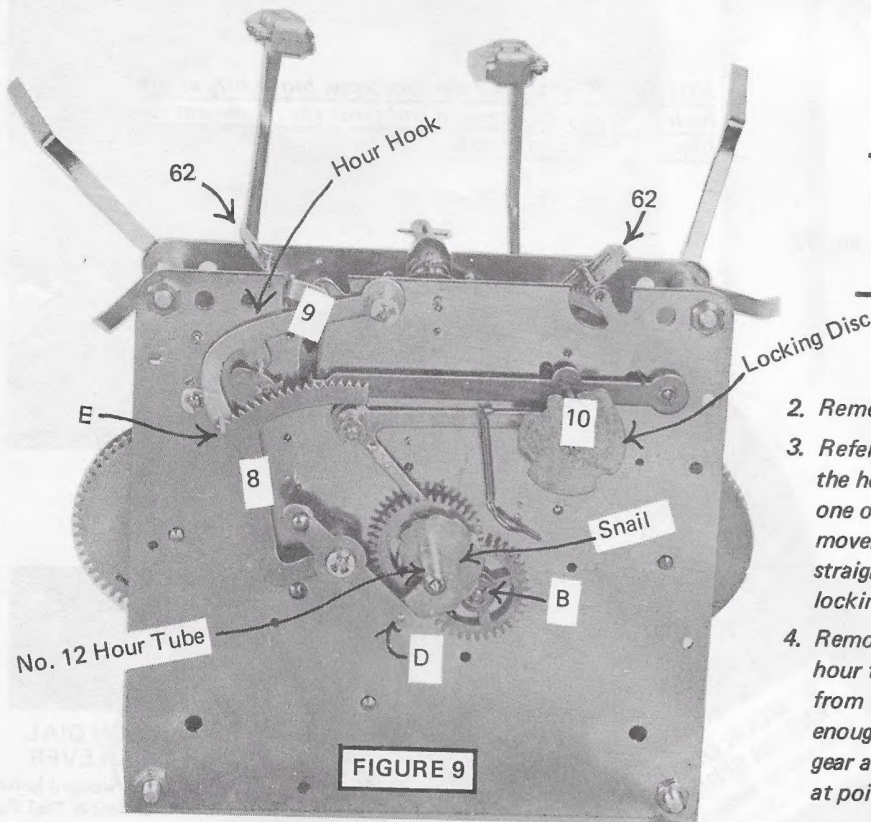

FIGURE 9
3. Refer to Figure 9 and notice that the snail portion of the hour tube assembly No. 12 in the illustration is at one o'clock strike position. The hour tube on your movement will have the long part on the snail pointing straight down (12 o'clock striking position). The locking disc must be in same position as illustrated.